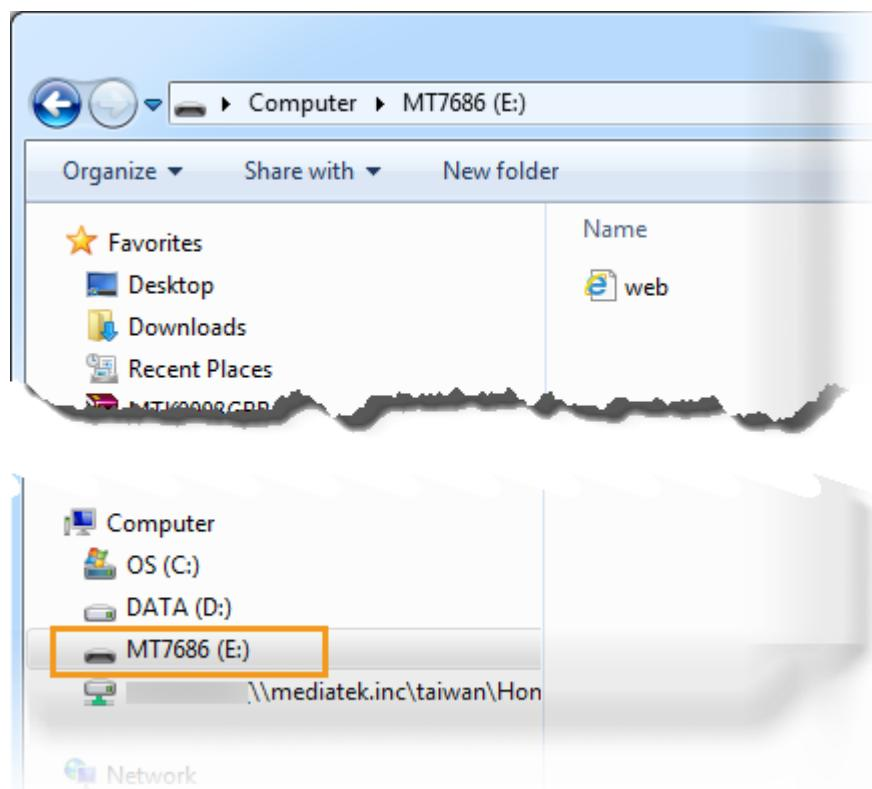

Figure 32. MT7686 removable storage detected
- 3) Navigate to **Computer** on your PC to check if a new mass storage named **MT7686** is available under **Removable Disk**, as shown in Figure 32.